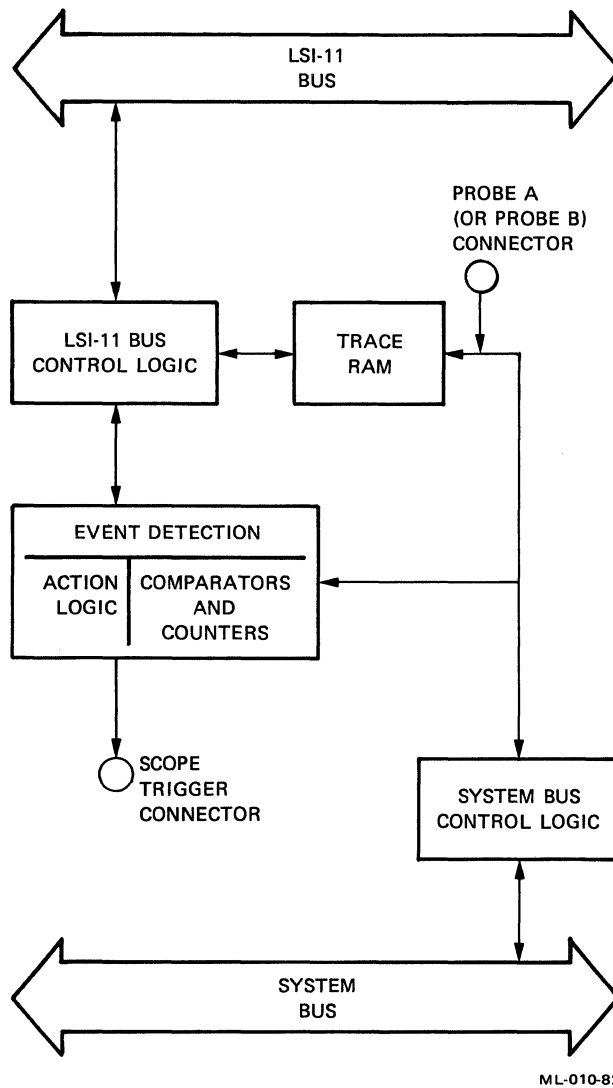

Figure 2-6 State Analyzer Functions
Figure 2-6 illustrates the major components of a state analyzer.
2.2.3.2 Bus Cycle Tracing - The trace RAM lets you trace each MICRO/T-11 bus cycle. The trace RAM is composed of high-speed static memory with 1024 locations and 56 bits in each location. Each location stores the same information described in the state template (Figure 2-6), with the exception of flag information. Also, the information stored matches actual bus cycles as they occur in real time. You can start or stop bus cycle tracing by specifying appropriate actions for user-defined events, configure the trace analyzer to trace always, or trace only a specified number of cycles (see the CONFIGURE ANALYZER command in Chapter 8).
3.2.1.3 **State Template** - The state template for each comparator (Figure 2-6) is 60 bits long and consists of the following fields: